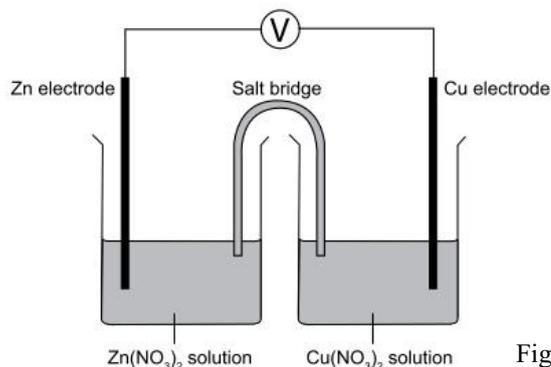

Figure 23.1
- draw a diagram similar to that shown in Figure 23.1.